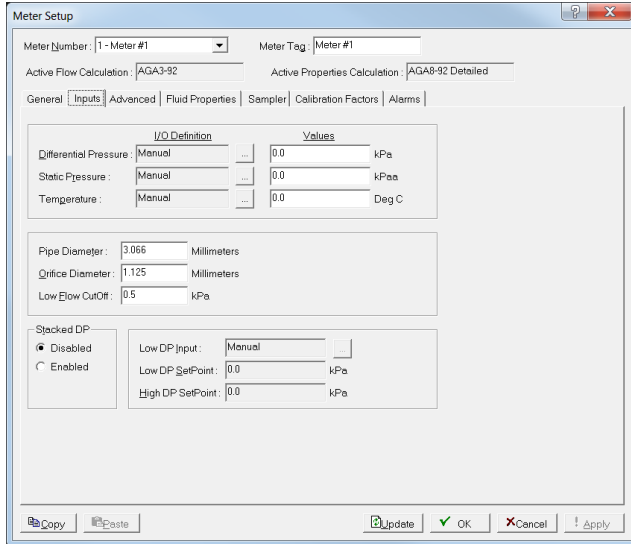
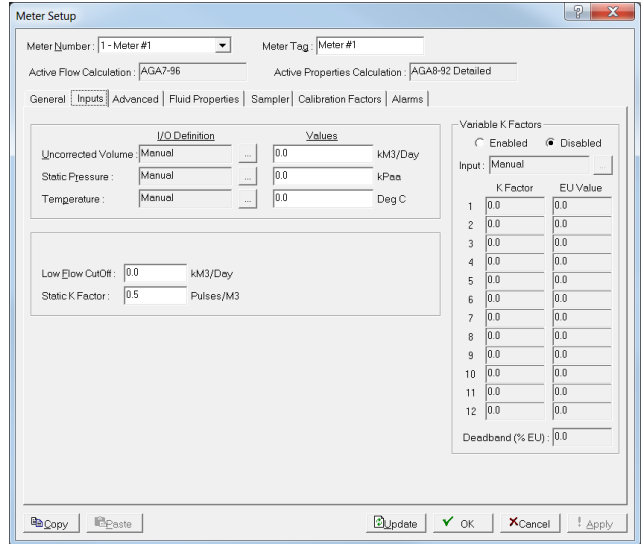
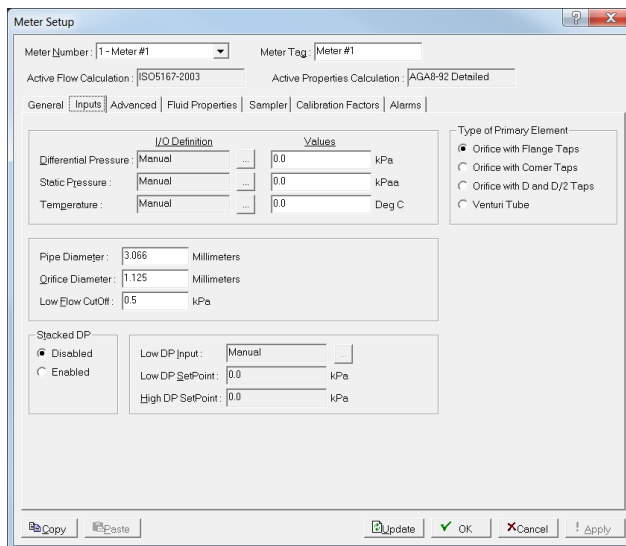

Figure 8-4. Meter Setup, Inputs tab (Orifice Meter)
Figure 8-5. Meter Setup, Inputs tab (Turbine Meter)
Figure 8-6. Meter Setup, Inputs tab (Orifice and Venturi Meter)
**Note:** Which screen displays depends on the calculation standard you selected on the General tab. Select **AGA3-1992** or **AGA3-2013** (orifice calculations) to display *Figure 8-4*. Select **AGA7-2006** (linear calculations) to display *Figure 8-5*. Select **ISO167-2003** (orifice and Venturi calculations) to display *Figure 8-6*